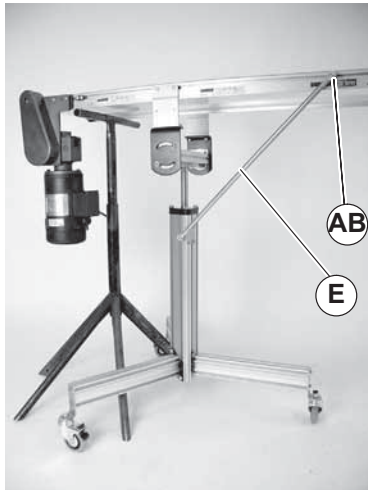

Figure 23
<p>Failure to secure screw (Figure 23, item AB) may cause conveyor sections to drop down, causing severe injury.</p> <p>TIGHTEN ALL SCREWS (AB) AFTER ADJUSTMENT.</p>
10. If installed, reattach brace (Figure 23, item E) and tighten brace fastening hardware (AB) to 100 in-lb (11 N-m).